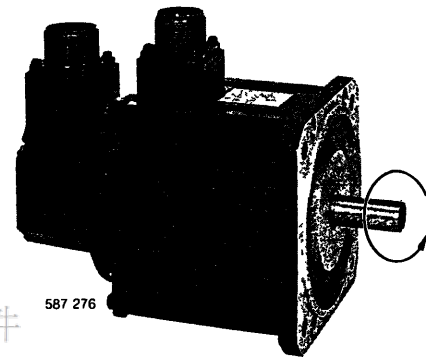

Fig 9.1 Motor Forward Running
- When the reference voltage is positive, the motor rotates forward (counterclockwise viewed from drive end-output shaft) (Fig. 9.1).